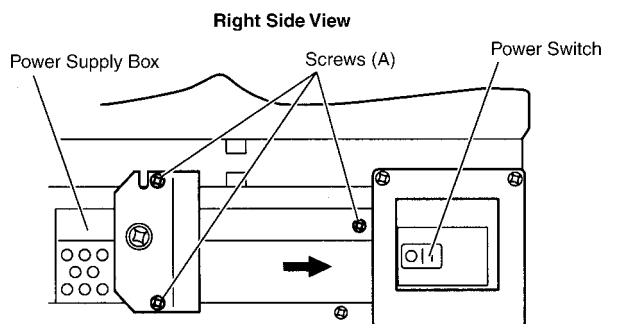

Fig. 4-28
- 2) Remove 3 screws (A), as shown in Fig. 4-28.
- 4) Slide Power Supply Box to the back side, according to the arrow as shown in Fig. 4-28.